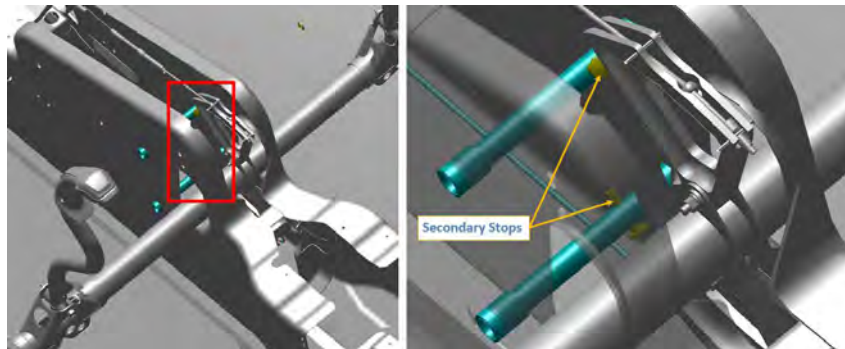

FIGURE 10-38
- c. Verifying that the primary pitch stops (located in vertical tail) contacts prior to the secondary stops. See Figure 10-38.
23. Adjust the bolt on the secondary stops as needed to achieve contact when specified force is applied. See Figure 10-38. If the secondary stops get contacted before the primary stops, not achieving the elevator travel limits, it is acceptable to remove the bolt on the bottom secondary stop.